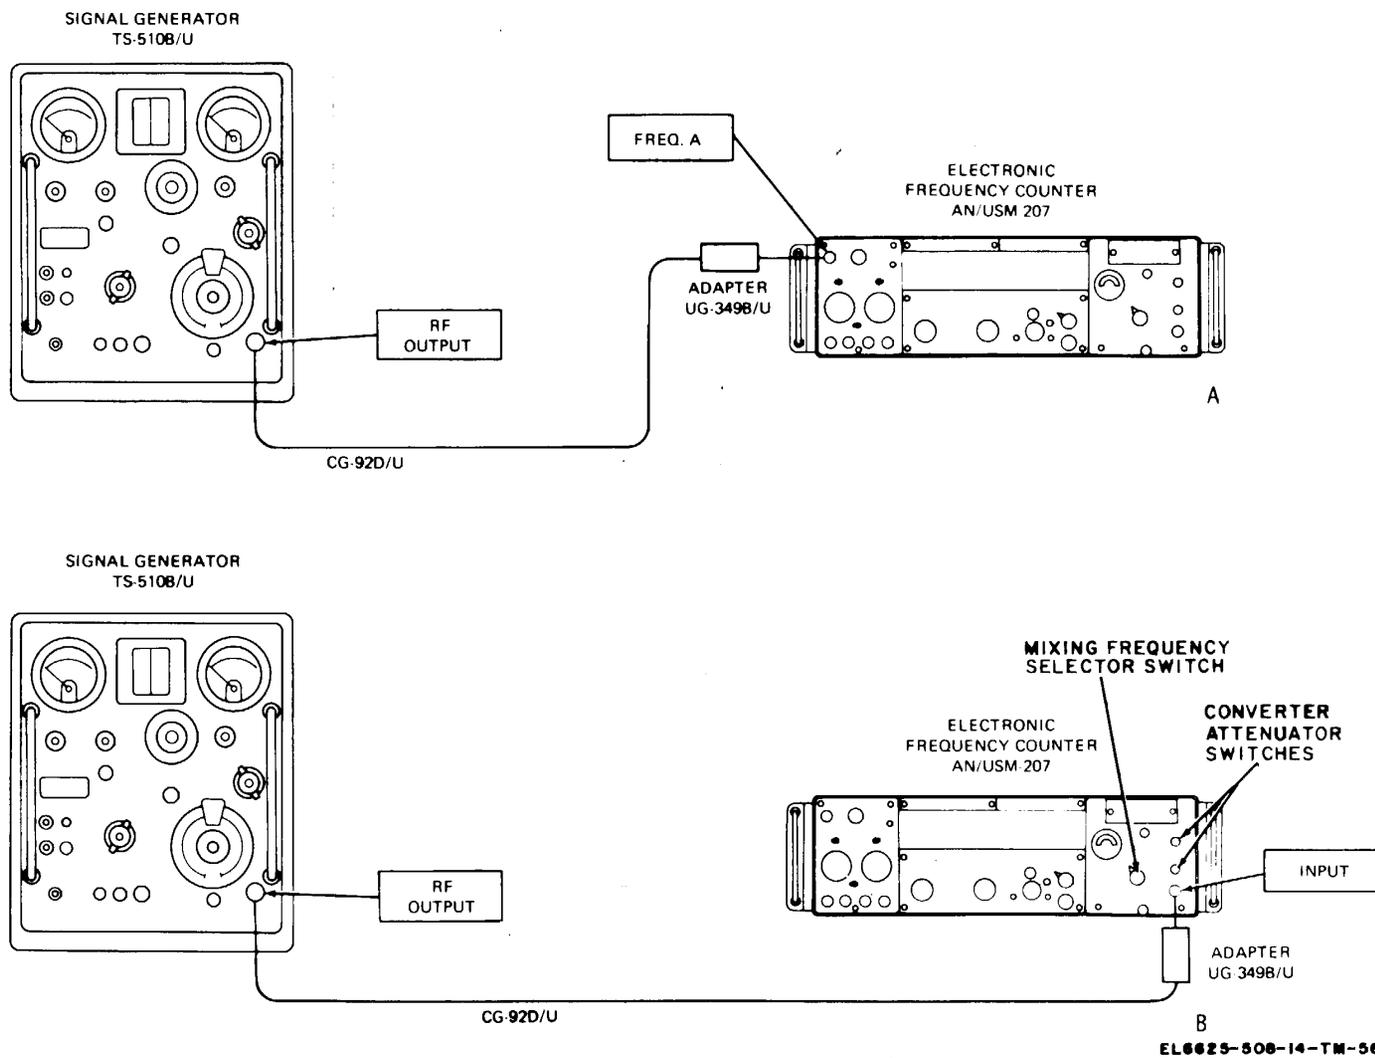

Figure 6-27. Frequency dial calibration and rf oscillator drift test connections.
- (1) Electronic Frequency Counter AN/USM-207
(2) CoaxialCableCG-92DIU
(3) AdapterUG-349/BU
*b. Test Connections and Conditions.* Connect the equipment as shown in A, figure 6-27.